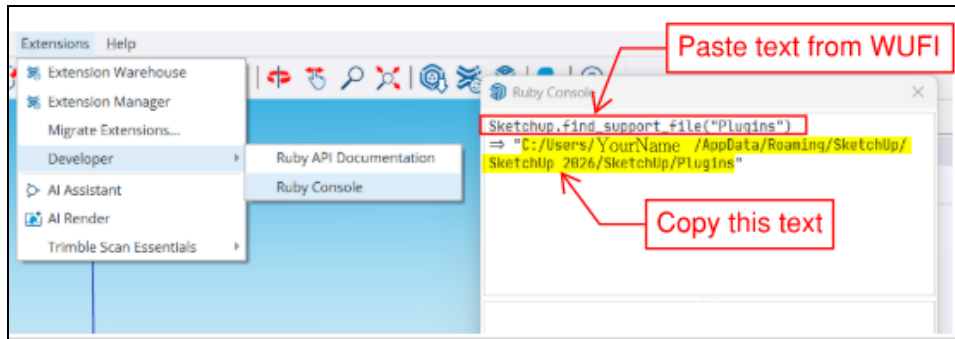

Figure 2.2. Screenshot from SketchUp showing step 4 from Section 2.1.
4. Paste the text that you copied from WUFI Passive (step 2) into the Ruby Console. Hit **Enter**, and the file extension will appear in the Ruby Console window (Figure 2.2). Copy the entirety of the text